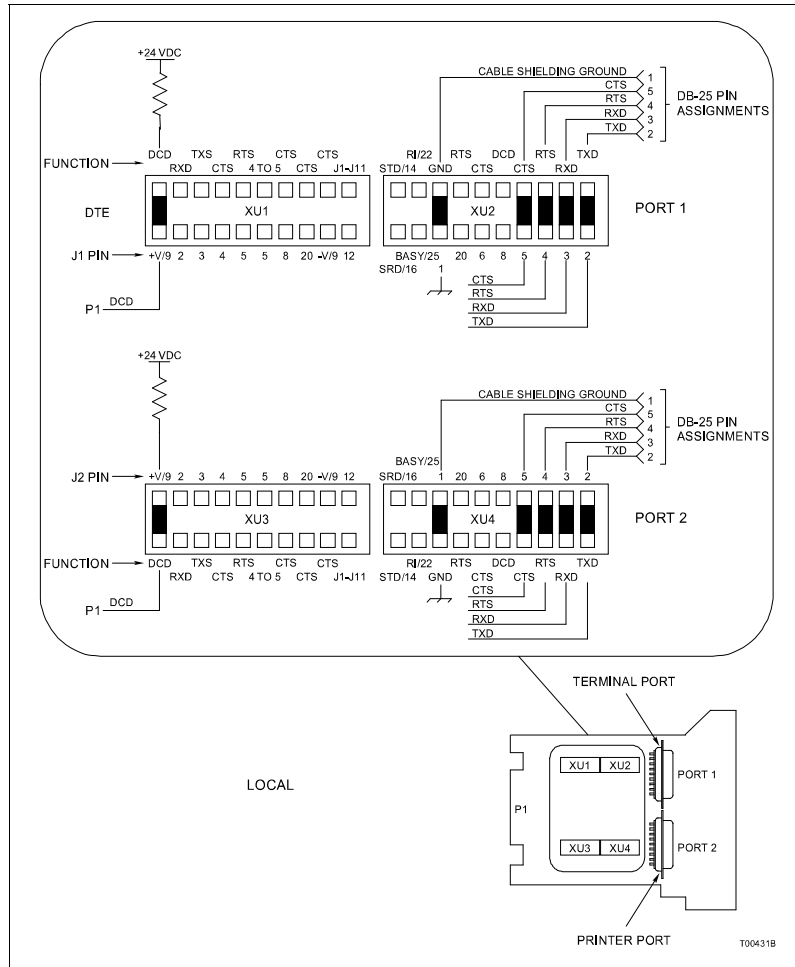

Figure 2-8. Dipshunt Configuration for Direct Connection of Local PPT Module Acting as DTE
2. If connecting a local Plant Loop (DTE) directly to a remote Plant Loop (DTE) via a cable (DCE), use the dipshunt settings shown in Figure 2-8 (local) and Figure 2-9 (remote).